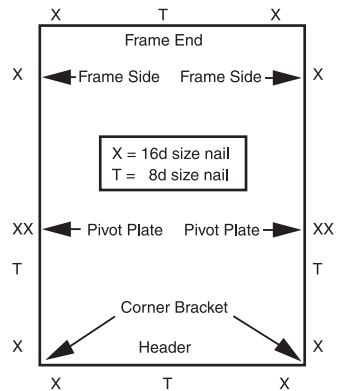

Figure 6
- Be certain to install nails or lag screws in the holes provided in the hardware pivot plates and the corner brackets (see Figure 6).
- Once the folding attic ladder is positioned as desired, final nailing should be done through the folding attic ladder frame (see Figure 6).